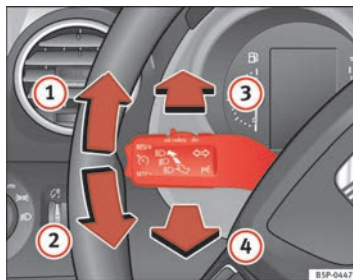

Fig. 77 Indicator and main beam headlight lever
- Move the lever all the way up \Rightarrow fig. 77 ① to indicate **right**, and all the way down ② to indicate **left**.
- Press the lever forward \Rightarrow page 117, fig. 77  to switch on the main beams.